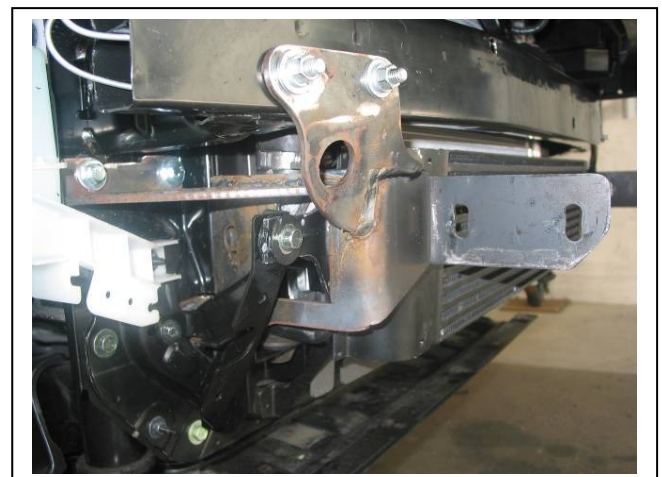

Figure 6 – Mount fitted on vehicle body
11. Fit ECB Steel mounting brackets to radiator support panel using M8 x 40mm bolts, spring washers and flat washers (supplied). Place 30mm Steel washers between top holes in mounts and vehicle. **FINGER TIGHTEN ONLY. See figures 6. NOTE:** Intercooler mount bracket protrudes through opening in centre of ECB Steel mount brackets.